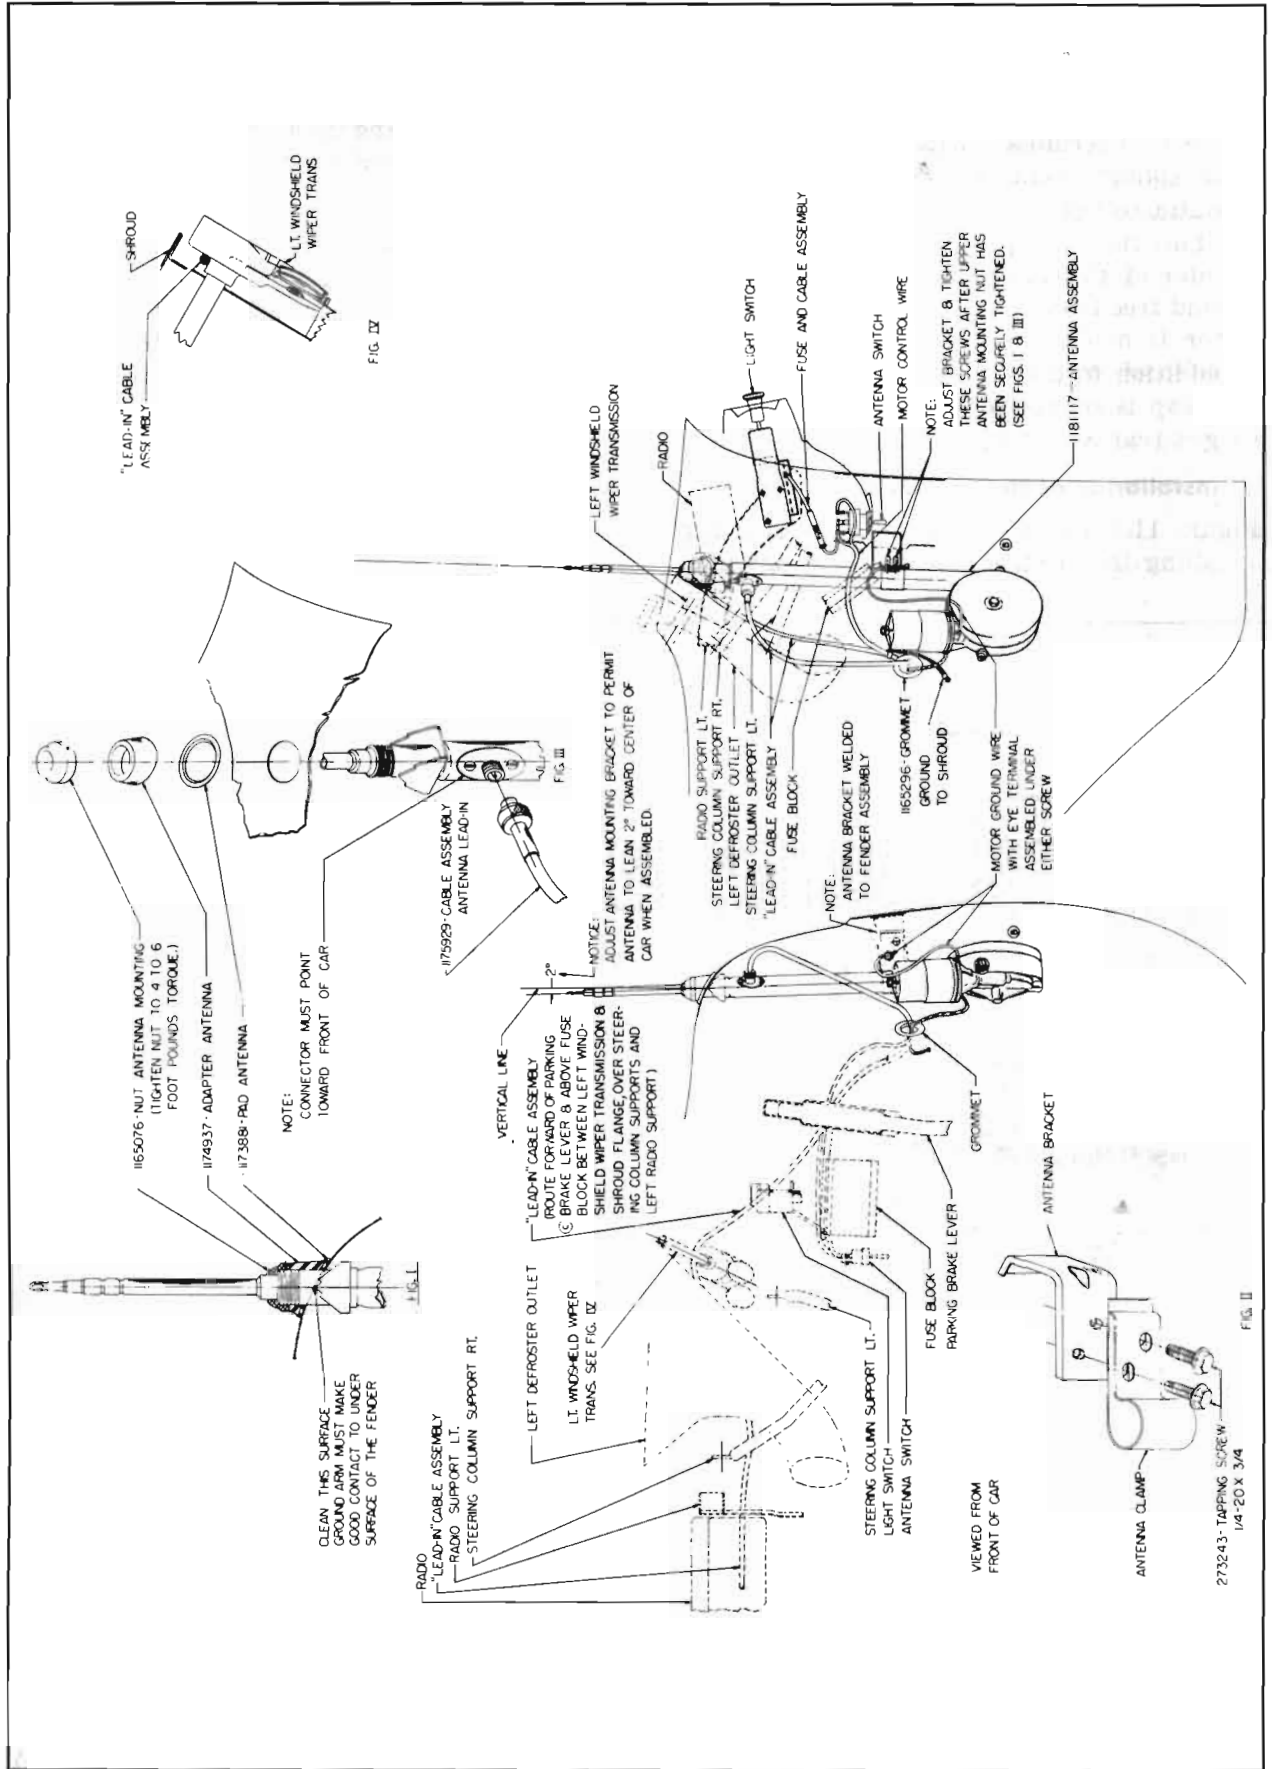

Figure 11-5—Electric Antenna Installation Details
Figure 11-5 shows all necessary details for reinstalling the electric motor driven antenna.
2. Bring the motor wire through grommet in cowl with the lead-in cable and attach lead-in ground lead to cowl with a 10-16 x 1/2" tapping screw, with internal lockwashers on both sides of terminal. Motor ground lead attaches to lower bracket clamp screw. See fig. 11-5.